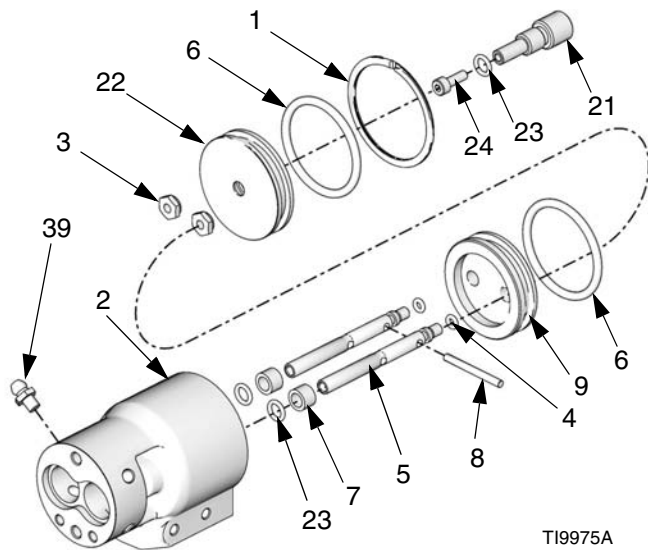

FIG. 6
7. Remove the retaining ring (1) from the back of the air cylinder (2). Push the two shafts (5) into the air cylinder (2) to dislodge the air cylinder cap (22). See FIG. 6.
8. Push the two shafts (5) to dislodge the piston (9) assembly from the air cylinder (2).
9. Use an o-ring pick to remove the o-rings (23) and use a screwdriver to remove the sleeve bearings (7) from the air cylinder (2).
10. Remove the o-rings (6) from the piston (9) and air cylinder cap (22).
11. Remove the screw (24) and snuff-back adjustment knob (21) from the cap (22). Use an o-ring pick to remove the o-ring (23).
12. Remove the lock nuts (3), the pin (8), o-rings (4), and piston o-ring (6) from the shaft (5).
1. Lubricate the shaft o-rings (23) and the bearings (7). Insert o-rings into the air cylinder (2) and air cap (22) cavities. See FIG. 6.
6. **255179 and 255181**, Insert the seals (26) with the springs facing into the fluid housing (14).
7. With the “X” on the nosepiece on the same side as the “MD2” on the air cylinder, install the nosepiece (31) with the o-rings (20), seats (27), and nosepiece screws (19). Tighten the nosepiece screws to 25-30 in-lb (2.8-3.4 N•m).
8. **255181 and 255182**, Install injector tube (30) with assembly tool (48). Torque to 168-192 in-lb (19.0-21.7 N•m).
9. **255181 and 255182**, Install injector tip (47) and torque to 60-72 in-lb (6.8-8.1 N•m).
10. Remove zerk grease fitting (39). Fill grease in the grease port below until grease begins to exit where the zerk grease fitting (39) was located. Repeat for the other zerk grease fitting (39). See FIG. 6.